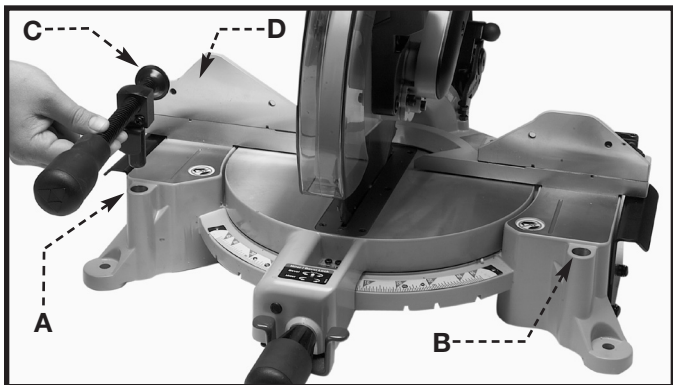

Fig. 7
Two holes (A) and (B) Fig. 7 are provided in the base of the miter saw for attaching the work clamp. Place the shaft of the work clamp in either hole (A) or (B) with the clamp cup (C) facing toward the fence (D).
2. Place the workpiece on the table and hold or clamp it firmly against the fence with the supplied work clamp (A) Fig. 29. This clamp can be used on either the left or right side of the machine (See Fig. 7).